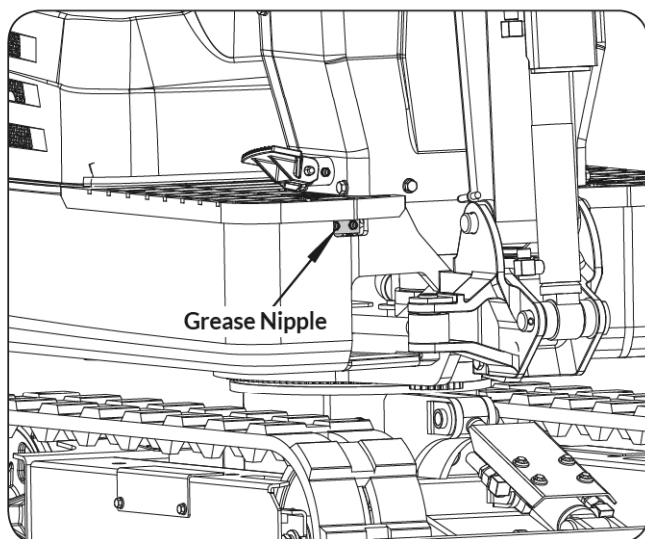

Figure 97
3. Using the grease gun, apply 5 shots at every position. (See **Figure 97**)